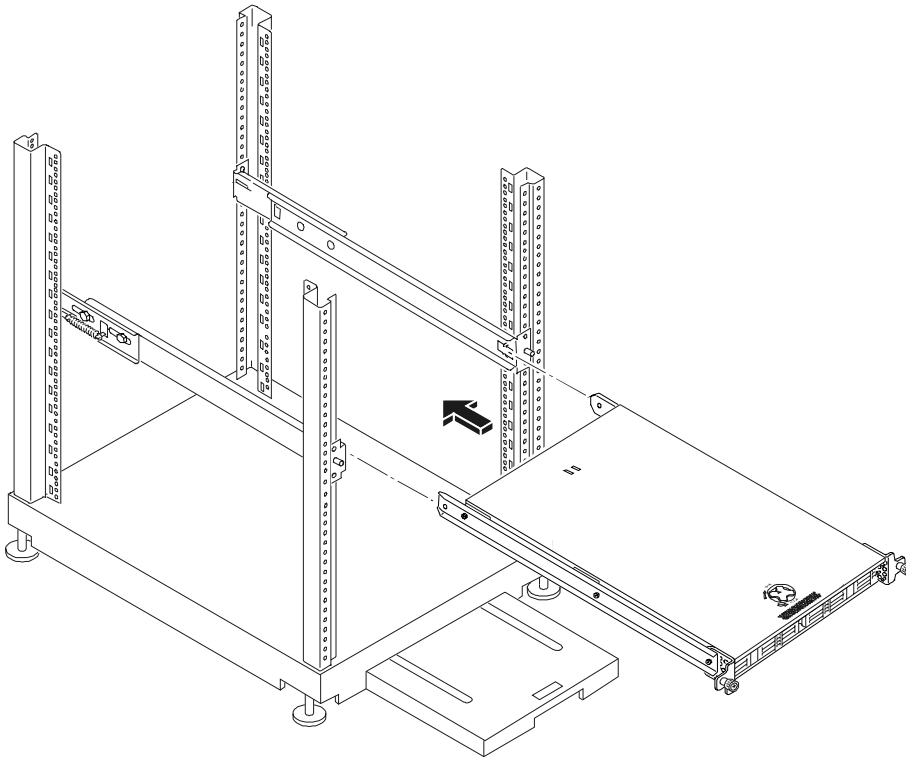

Figure 8-6. Mounting the HP Netserver
1. Ensure the leveler screws on the rack's lower four corners make firm contact with the floor. See Figure 8-6.
2. Ensure you have extended the anti-tip foot from the rack before continuing with this procedure. See Figure 8-6.
4. Move the rear of the rails mounted on the Netserver just beyond the inside edge of the outer-rail assemblies. See Figure 8-6.
5. Slowly move the Netserver chassis into the outer-rail assemblies until the Netserver is completely in the rack. See Figures 8-6.